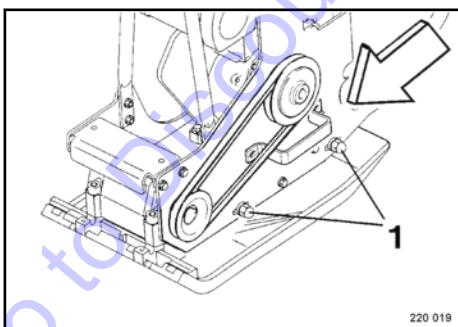

Fig. 49
Slightly loosen two fastening screws (1) ↪ Fig. 49 on both sides of the engine carrier.